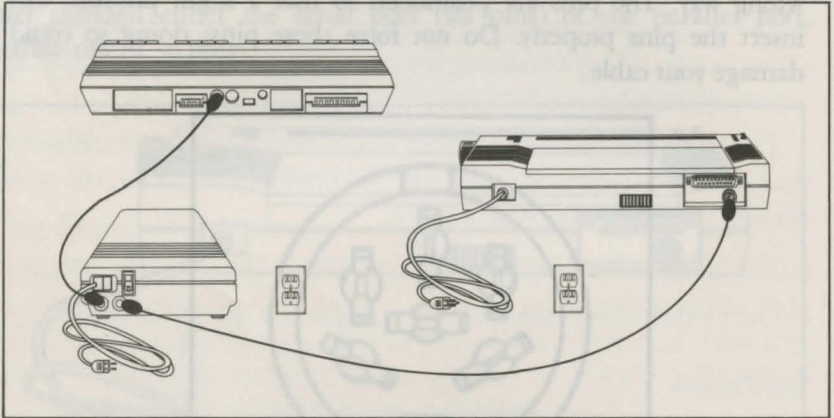

Figure 1-21: Multiple hookup (serial)
3. If you are using a disk drive, connect the printer to your drive unit using the serial port as in Step 2 above. Connect the drive to the computer. If any of the ports are not compatible with your cables, consult your dealer or your computer and disk drive manuals. Refer to Figure 1-21 below.